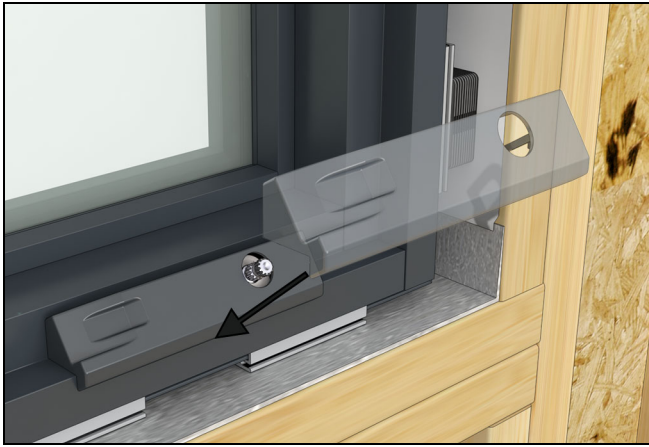

Figure 49
**4.** Install the crank hardware cover. Snap the cover on the base of the hardware. See Figure 49.